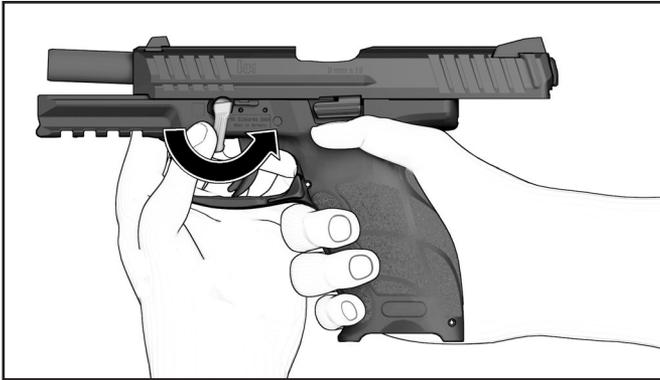

Figure 32 – Pivot the disassembly lever counter clockwise
- Pivot the disassembly lever counter clockwise so that the lever lies horizontal to the bottom of the slide (see Figure 32).